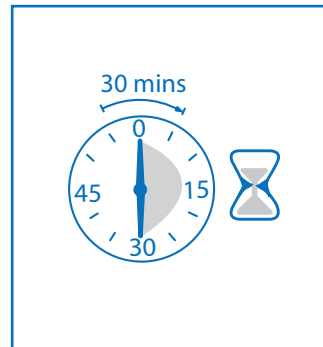

Figure 14
5. Allow the solution to remain in the lines for 30 minutes minimum (Figure 14).